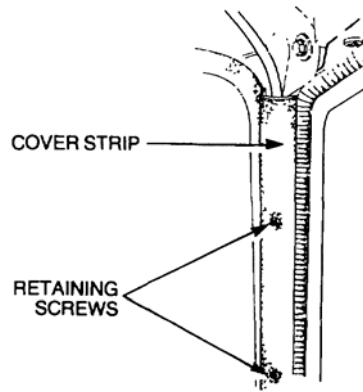

Figure 15 Removal of the Windscreen Frame Cover
- bb. Remove the three screws from each of the vertical cover strips on the inside of the windscreen frame (Figure 15) and remove the cover strip from the vehicle.